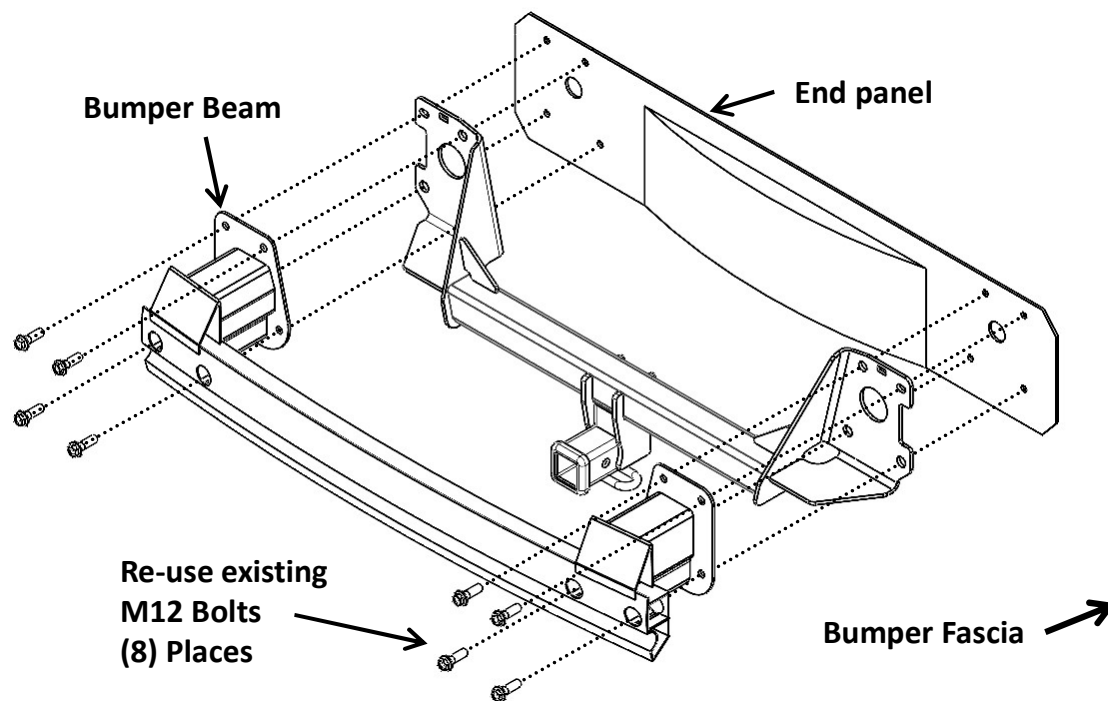

Figure 1
2. **Remove Bumper Beam** – Using an 18mm socket with extension remove (8) factory bolts, (4) per side.
3. **Install hitch** - Raise hitch and bumper beam into position aligning holes with weldnuts in vehicle end panel. Sandwich the hitch between the bumper beam and vehicle end panel. Secure hitch and bumper beam to vehicle using (8) existing M12 fasteners. **See Figure 1.**